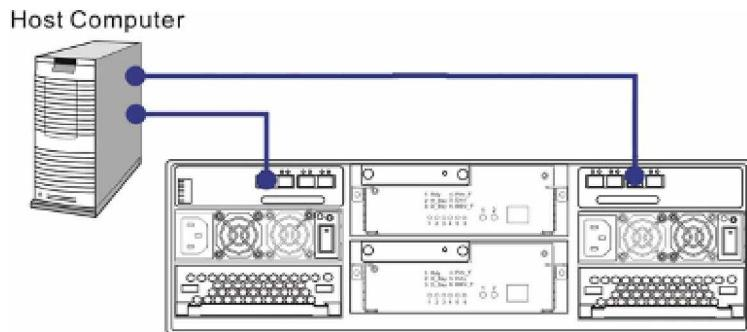

Figure 4-3: Direct Single Host Connection
As shown in *Figure 4-3*, one (1) FALCON III is directly connected to single host computer. Multiple logical drives or multiple partitions can be created and made available separately through different ID/LUN's on the host ports.